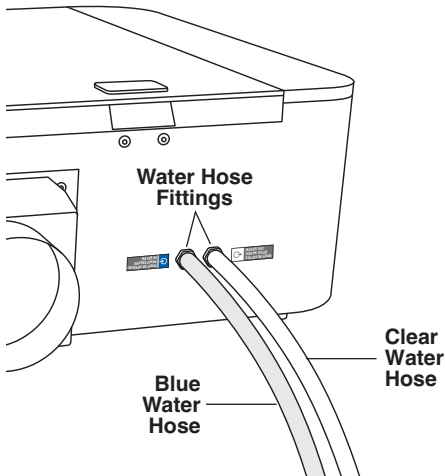

Fig. 9 — Rear of Laser Cutter
3. Match the blue and clear water tubes to the appropriate inlet and outlet fittings on the laser cutter and the Hex Box™, Fig. 9 & 10. The fittings are labeled with colors to help identify the appropriate tubes.